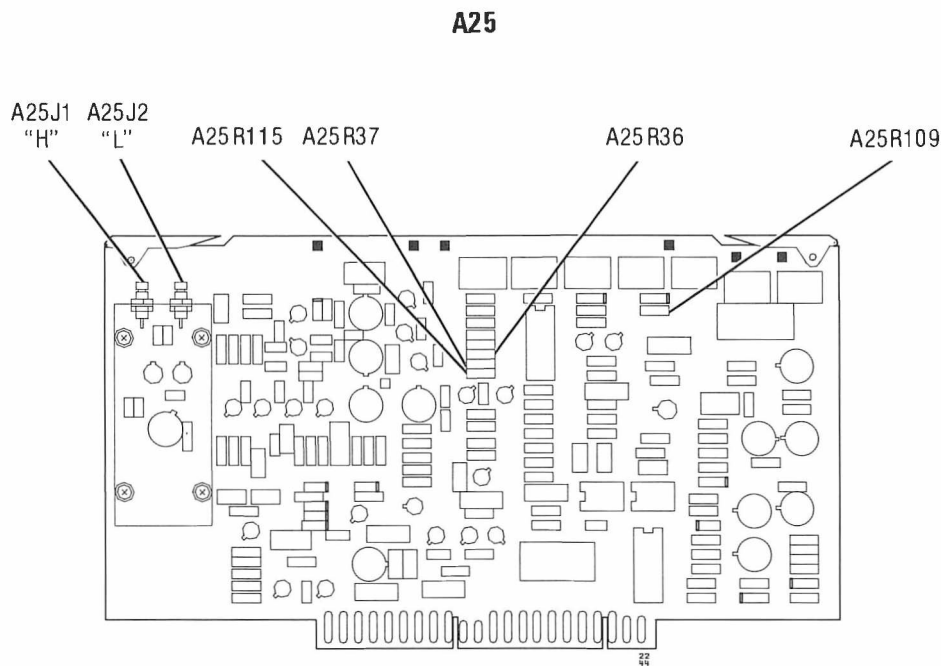

Figure 5-44. ALC Detector A25 Temperature Compensation Adjustments Location
2. Disconnect cables W26 and W27 from A25J2 and A25J1 respectively (Figure 5-44), and remove A25 PC board from the instrument.